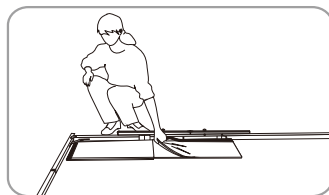

Figure 10
1. Unfold screen fabric and lay over frame (Figure 10 - 11).